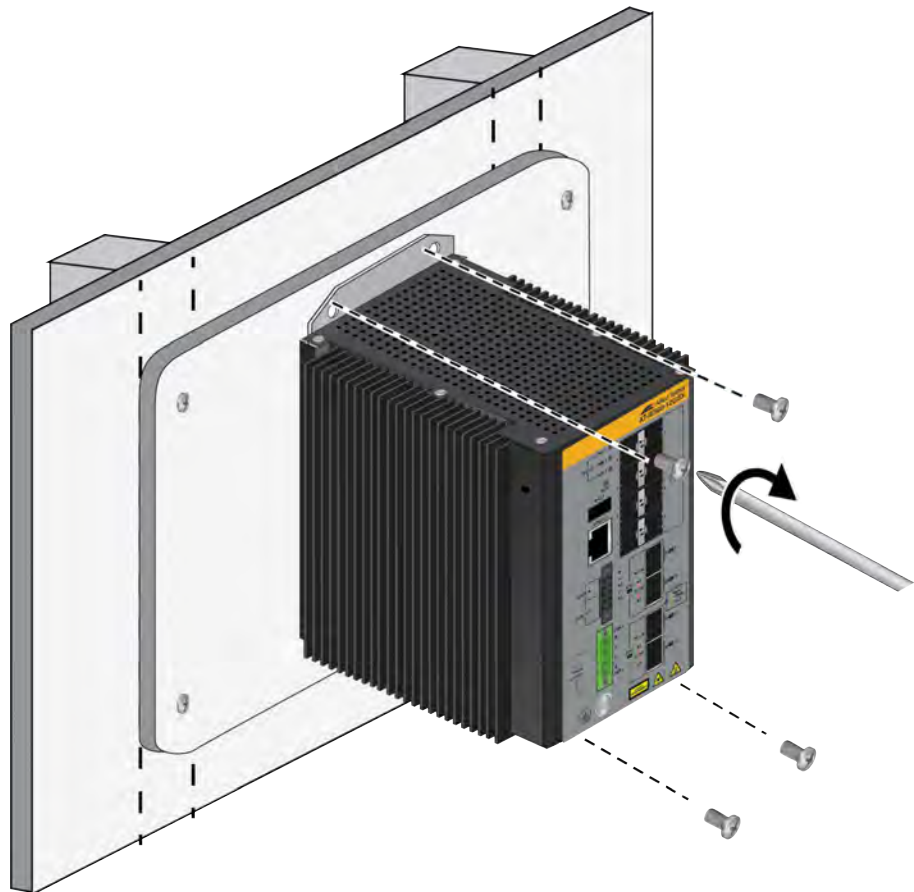

Figure 34. Attaching the Switch to the Plywood Base
6. Have another person hold the switch on the plywood base on the wall while you secure it with four screws (not provided). Refer to Figure 34.